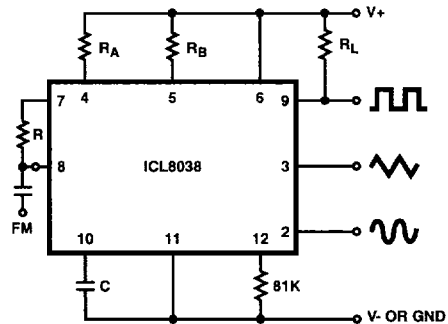

FIGURE 5A. CONNECTIONS FOR FREQUENCY MODULATION
- $V_{SUPPLY} = 20V$; R_A and $R_B = 10k\Omega$, $f = 10kHz$ nominal; can be extended 1000 to 1. See Figures 5A and 5B.
The frequency of the waveform generator is a direct function of the DC voltage at Terminal 8 (measured from V+). By altering this voltage, frequency modulation is performed. For small deviations (e.g. ±10%) the modulating signal can be applied directly to pin 8, merely providing DC decoupling with a capacitor as shown in Figure 5A. An external resistor between pins 7 and 8 is not necessary, but it can be used to increase input impedance from about 8kΩ (pins 7 and 8 connected together), to about (R + 8kΩ).